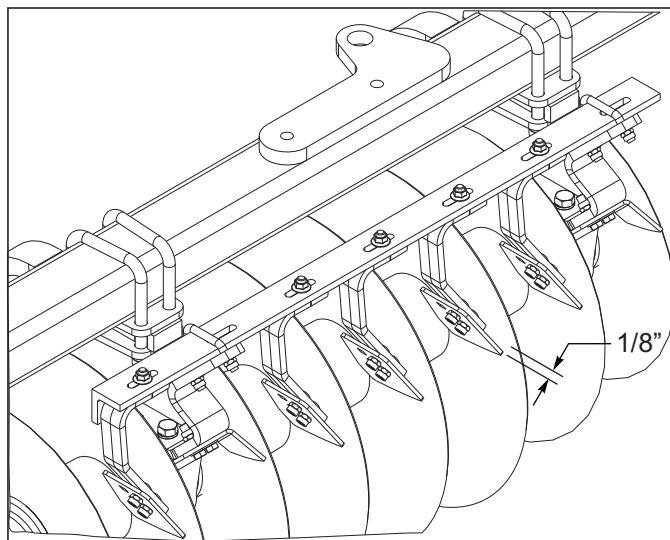

Figure 4-5: Scraper Adjustment
1. Rigid scrapers should be set initially as close to the disc blade as possible without rubbing (approximately 1/8") **See Figure 4-5**. A slotted hole at the top of each scraper is provided for individual adjustment. Adjustments may be made for entire gangs, by loosening the u-bolts around the angle-iron scraper bars and sliding the whole bar. Scraper arms are made of spring steel. In wet conditions, the scraper may be set against the disc blade and will function as a spring-loaded scraper.